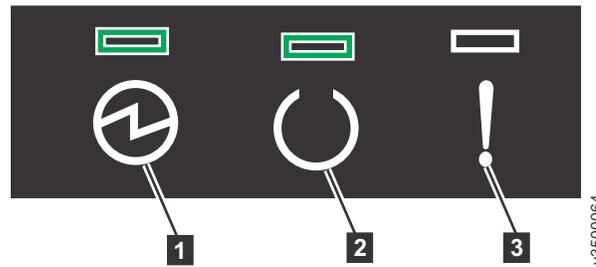

Figure 40. Node canister LEDs
- From the rear of the control enclosure, check the LEDs on each node canister (see Figure 40).